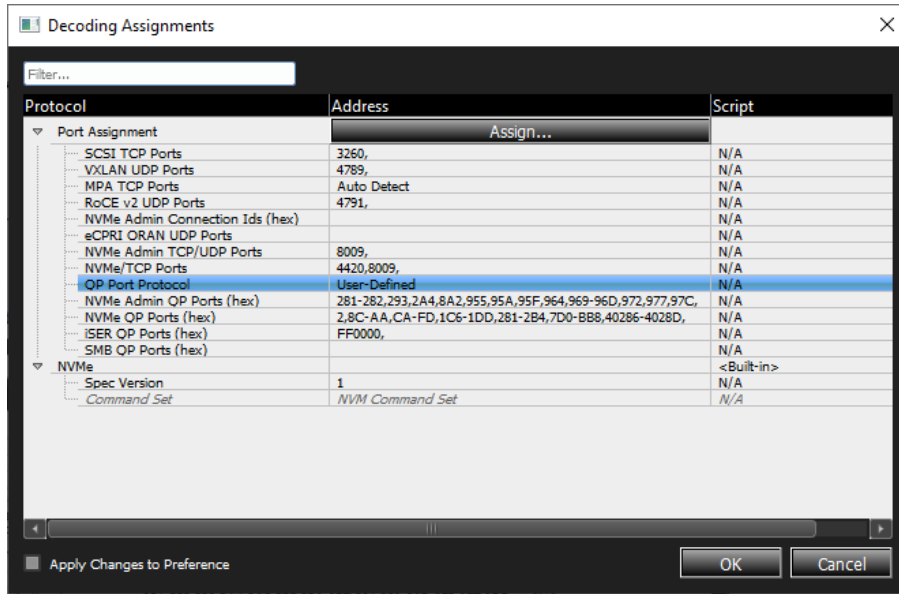

Figure G.2: Decoding Assignments List
1. Go to the “Analysis” tab and select **Decoding Assignments**. A list will be displayed as shown in Figure G.2.